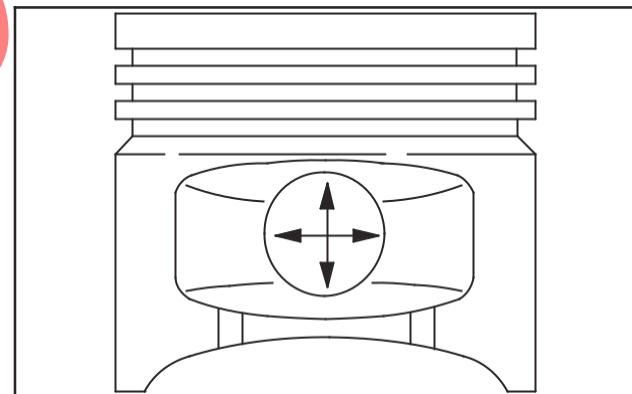

Fig. 5 – Checking Piston Pin Bore
3. Check piston pin bore, Fig. 5.